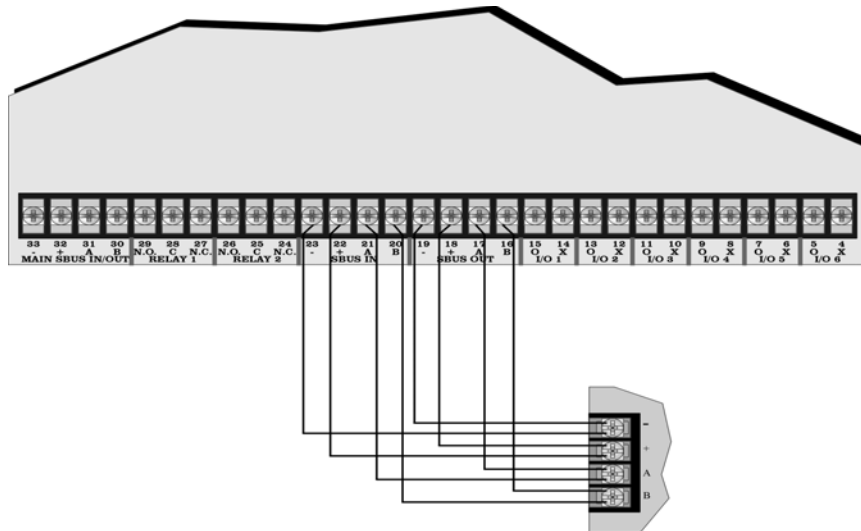
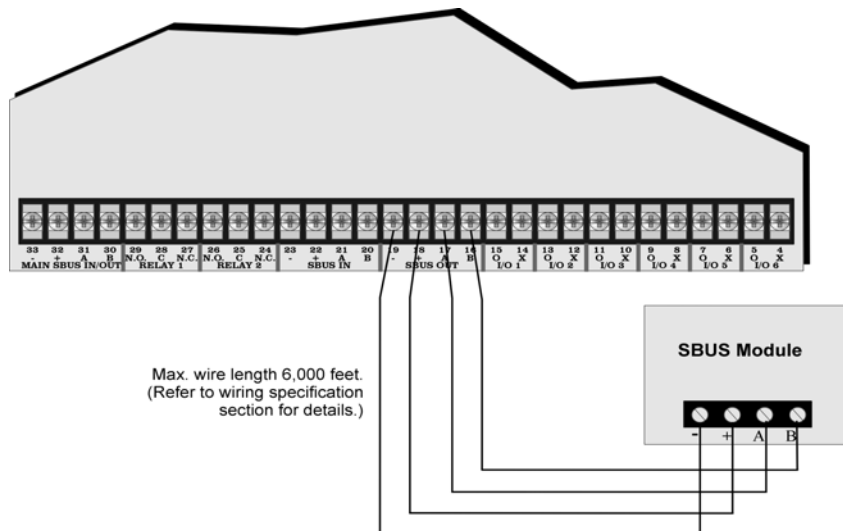

Figure 3.6 SBUS Class A Connection to TR-RPS1
Figure 3.7 SBUS Class B Wiring to TR-RPS1
1. Connect the SBUS modules to the TR-RPS1 as shown in Figure 3.6 or Figure 3.7.